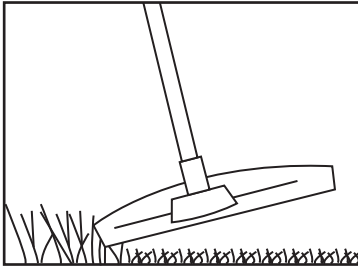

Fig. 20
1. Attach the trimmer head (16) to cut to cut smaller types of weed, lawn grass or similar soft vegetation. Make sure that the trimmer guard (13) has been attached properly.
4. Hold the trimmer head (16) just above the ground at an angle of approximately 30° (Fig. 20).